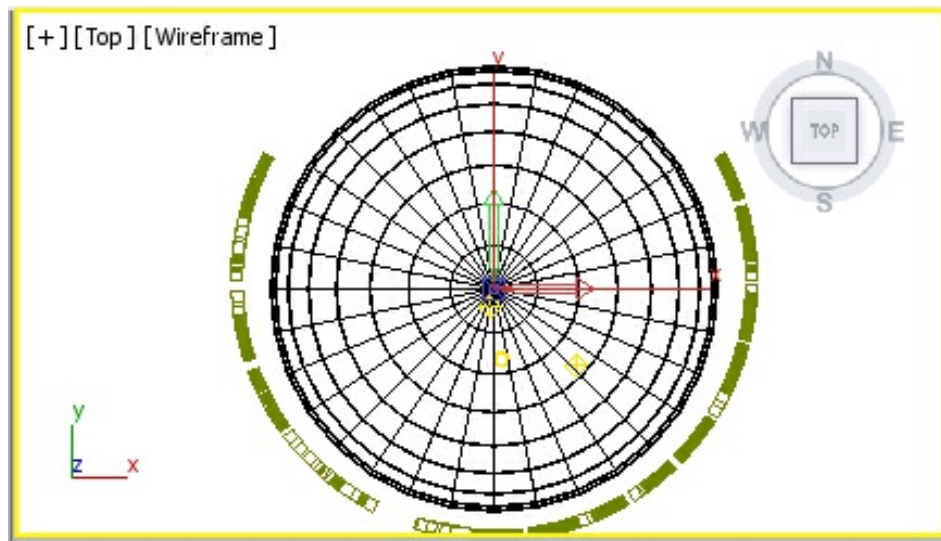

Figure 14-65 The pivot point of the Text001 aligned in the Top viewport
6. Align the pivot point of *Text001* at the center of *wireframe earth sphere*, as shown in Figure 14-65. Then, choose the **Affect Pivot Only** button again to deactivate it.
6. Align the pivot point of the *Text001* at the center of the wireframe *earth sphere*, refer to Figure 14-65. Then, choose the **Affect Pivot Only** button again to deactivate it.